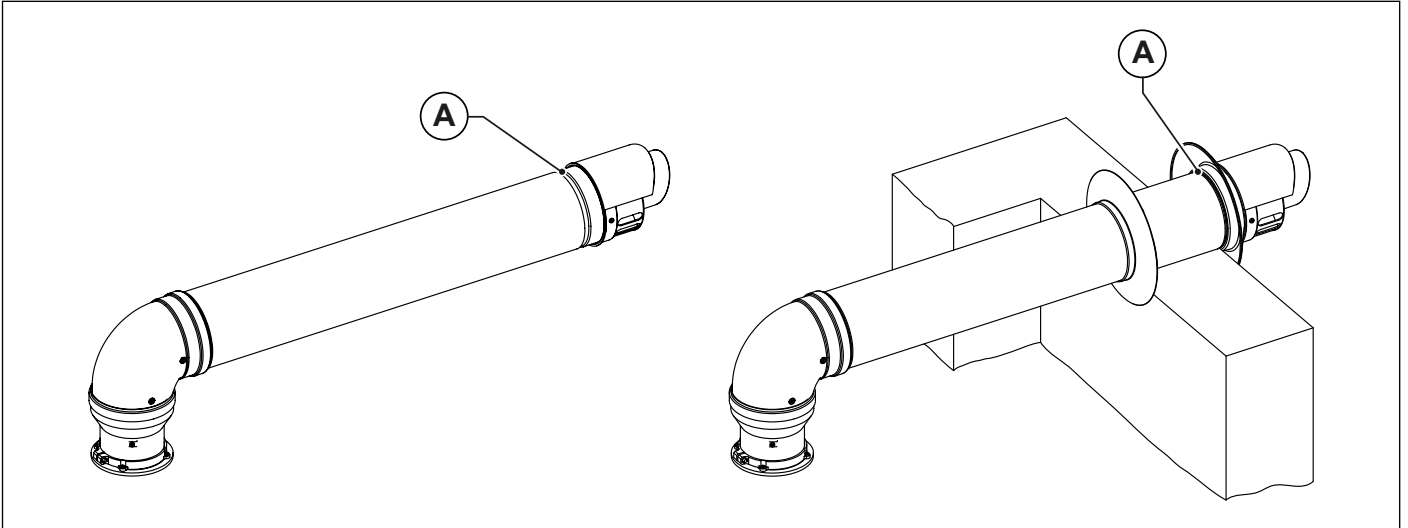

Fig. 9 Wall-mounted terminal installation
The final parts of air intake and flue gas venting terminals, both split and coaxial, feature a groove (A) to fix the external collar (see Fig. 9 Wall-mounted terminal installation).